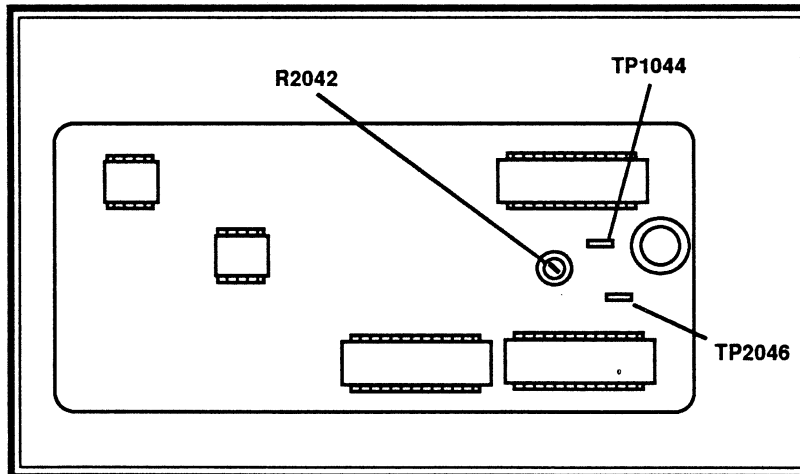

Figure 6. Test point and adjustments inside the Reference Lock module.
3. Connect Channel 1 of a dual channel test oscilloscope to TP1044 and Channel 2 to TP2046 (Figure 6). Set the deflection sensitivity to 2 V/div, Time/Div to 20 ns and trigger the display on Channel 1 signal.